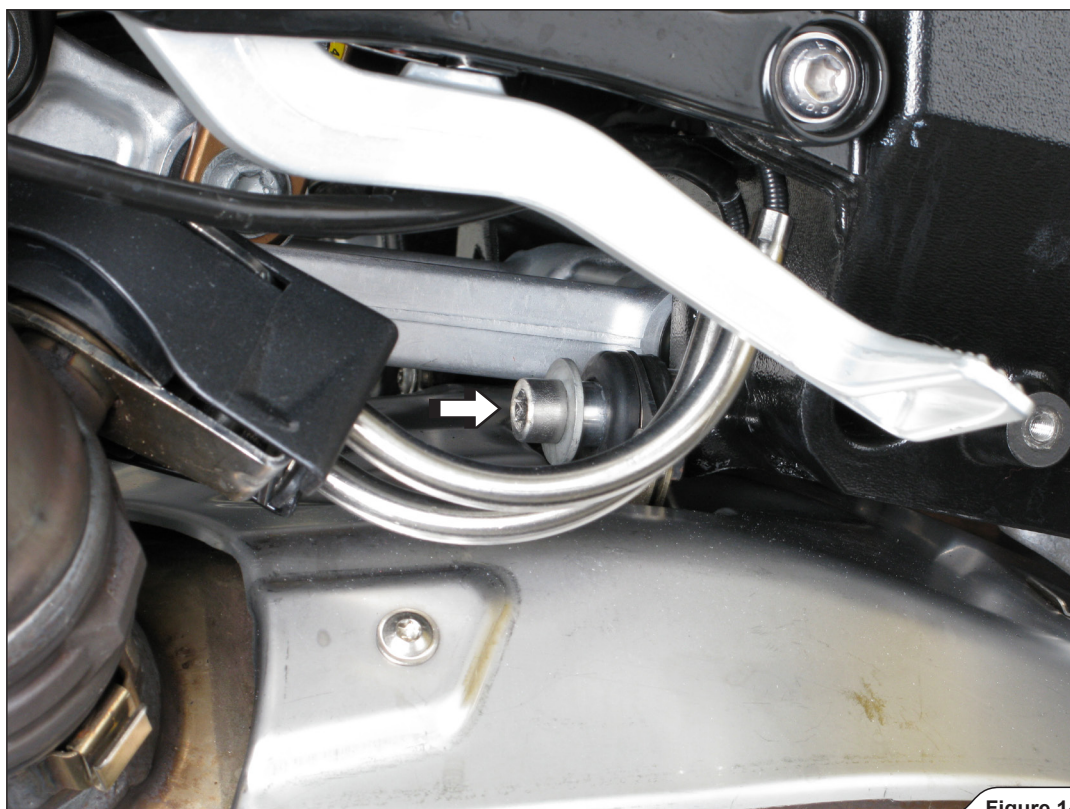

Figure 14
11. Unscrew the market bolt on both sides of the motorcycle and remove the stock exhaust off the motorcycle (Figure 14, 15).